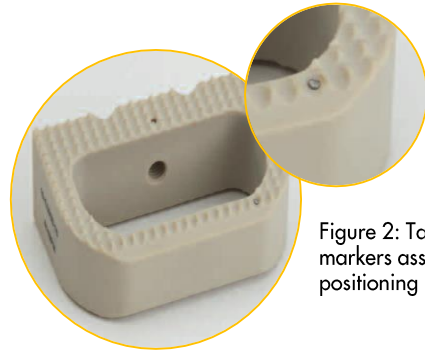

Figure 2: Tantalum markers assist in positioning implant.
- C. The Vault PEEK Cage and Vault Plate are inserted under fluoroscopy. The tantalum markers will assist in determining positioning of the cage. (Figure 2)